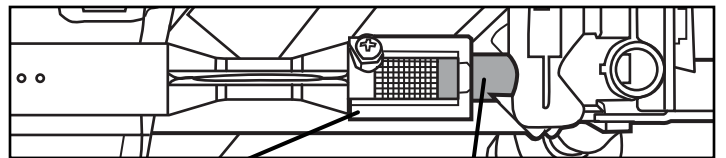

figure 21
- A. Control knobs ⑳
- C. Lid handle ③
4. Check that the burner-venturi tube is properly located over the gas valve orifice, shown in *figure 21*.